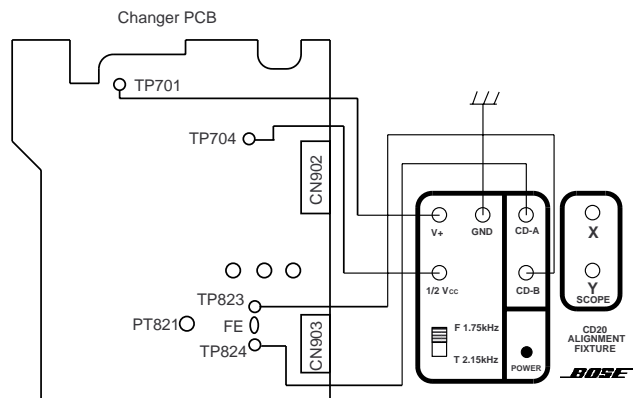

Figure 3. Focus Gain Alignment
3.2 Remove the solder from the point labeled FE and connect the CD-20 alignment fixture as shown in Figure 3.